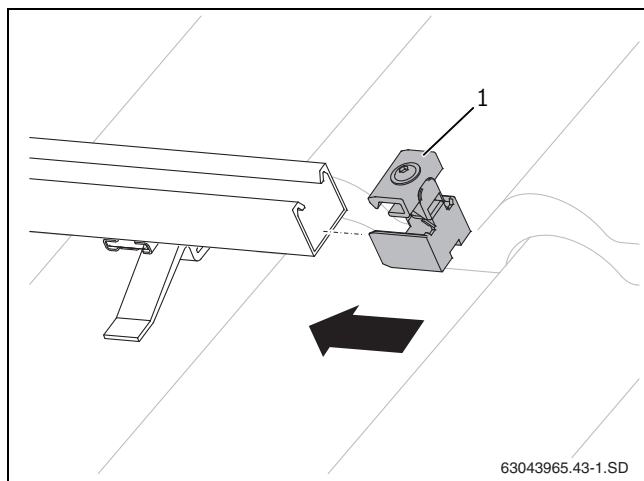

Fig. 37 Fitting the lateral collector tensioner
- Insert the side collector tensioner on the profile rails (Fig. 37, [1]) on the far right of the collector array until the profile rails fit into the first oblong hole.